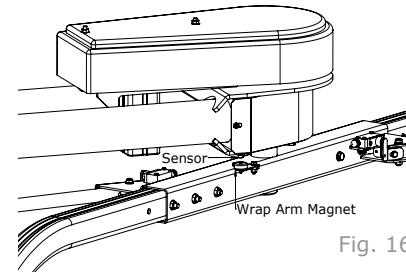

Fig. 16
- Ensure the Wrapping Arm is in the park position; ie the Wrap Arm Magnet is positioned under the Sensor, (See Fig. 16)